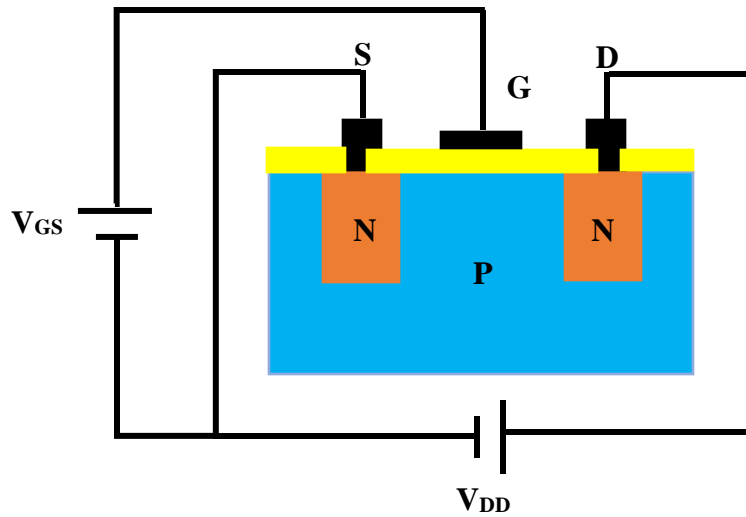

Figure 3.9
When the MOSFET is attached to a source, that source is called V_{DD} that is the voltage difference of drain voltage with respect to ground or negative terminal of the source. The difference between gate (G) and source (S) is called V_{GS} also just like in JFET. Figure 3.9 is an N-channel EMOSFET. Unlike in JFET where in the type of semiconductor used as substrate dictates what channel it is in MOSFET if the substrate is P-type then the channel will be N-channel and if the substrate is N-Type then the channel will be P-channel. It works as the opposite of JFET with regards to substrate and channel relationship.